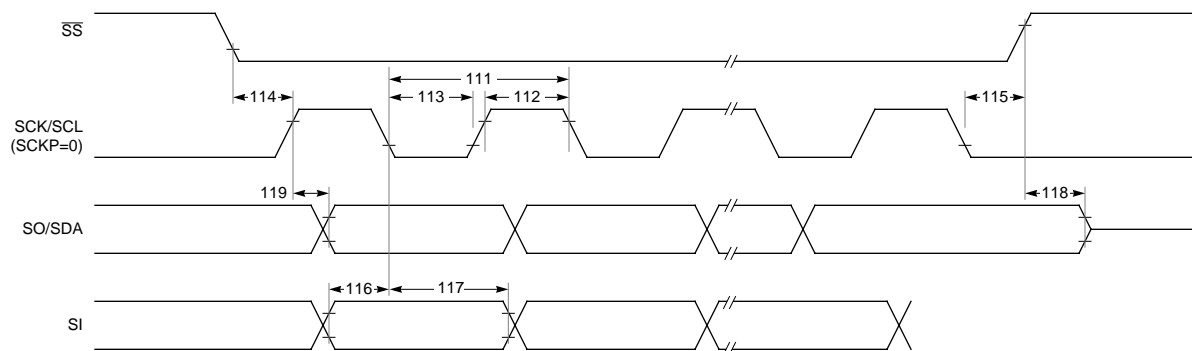

Figure 31. SPI Serial Host Interface Timing
1. SCK polarity is controlled by field SCKP of register SPIMODE. The polarity shown in Figure 31 corresponds to SCKP=0.